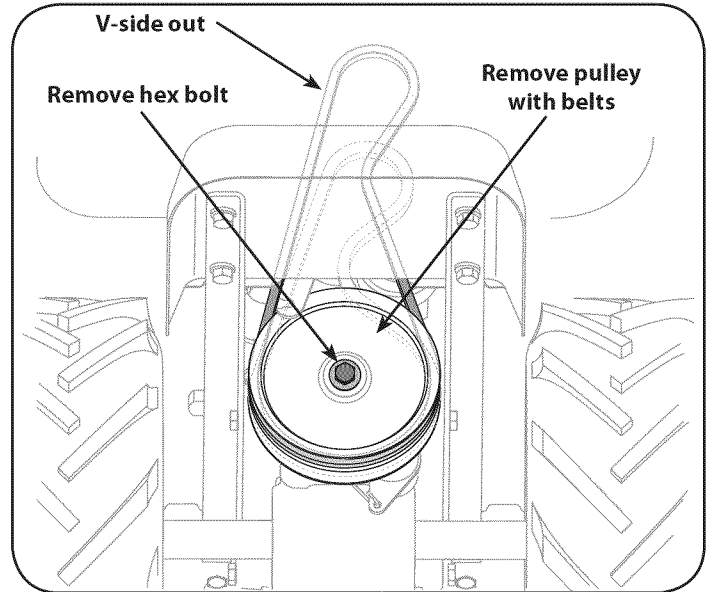

Figure 27
6. Remove the hex bolts securing the transmission drive pulley, then remove the pulley along with the two belts. See Figure 27.